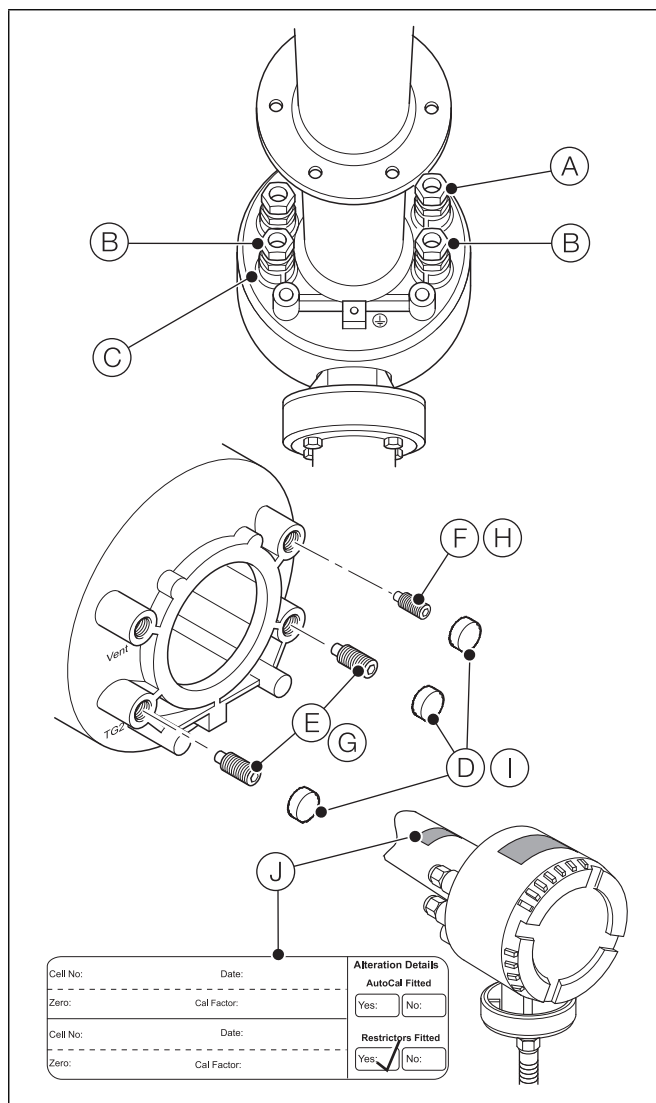

Fig. 5.10 Replacing / Fitting Restrictors
If a new Commissioning Label is attached to the probe (required if the cell is replaced), the 'Restrictors Fitted' / 'Yes' box must be ticked by the customer – see item (J), Fig. 5.10.
Referring to Fig. 5.10: